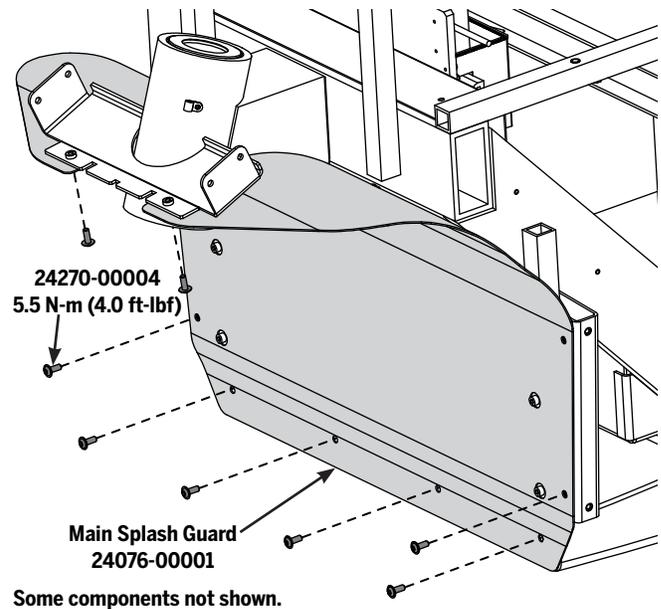

Figure 35: Main Splash Guard
3. Using a 4 mm hex wrench, remove the eight fasteners as shown in **Figure 35**.
4. Using a 4 mm hex wrench, install the eight fasteners as shown in **Figure 35**.